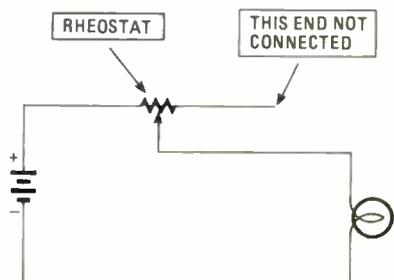

Fig. 20—A potentiometer can also be used as a rheostat.
40. (rheostat) Fig. 20 shows a pot used as a variable resistance. In this case, varying the resistance controls the current in the circuit thereby varying the brilliance of the bulb. With the pot at one end of the element, the resistance will be zero. Therefore, the full source voltage will be applied to the bulb and its brightness will be maximum. Turning the pot inserts some resistance thereby decreasing the current and lowering brightness. When the arm reaches the other end of the pot element, maximum resistance will be inserted and minimum current will flow. Bulb brightness will be the lowest. The bulb may even appear to be off if the current is low enough.